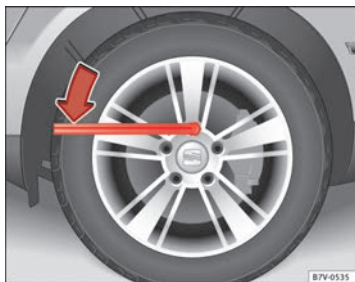

Fig. 183 Changing a wheel: Slacken the wheel bolts.
- Fit the wheel brace as far as it will go over the wheel bolt ⇒ Fig. 183.